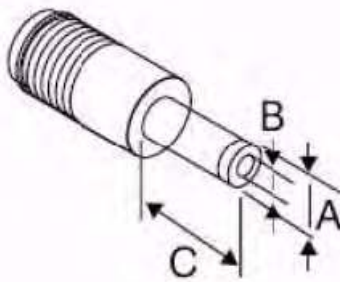

Figure 1. Female Plug
The Board features two power source options. It can be powered by connecting USB (B) connector J1 to the USB port of the development PC using the USB A to USB (B) cable included in the Kit. The other option is to connect a female plug to an external 6VDC source with at least 300–400mA of current to external power supply connector J3. A drawing of an optional external power supply plug is shown in Figure 1.